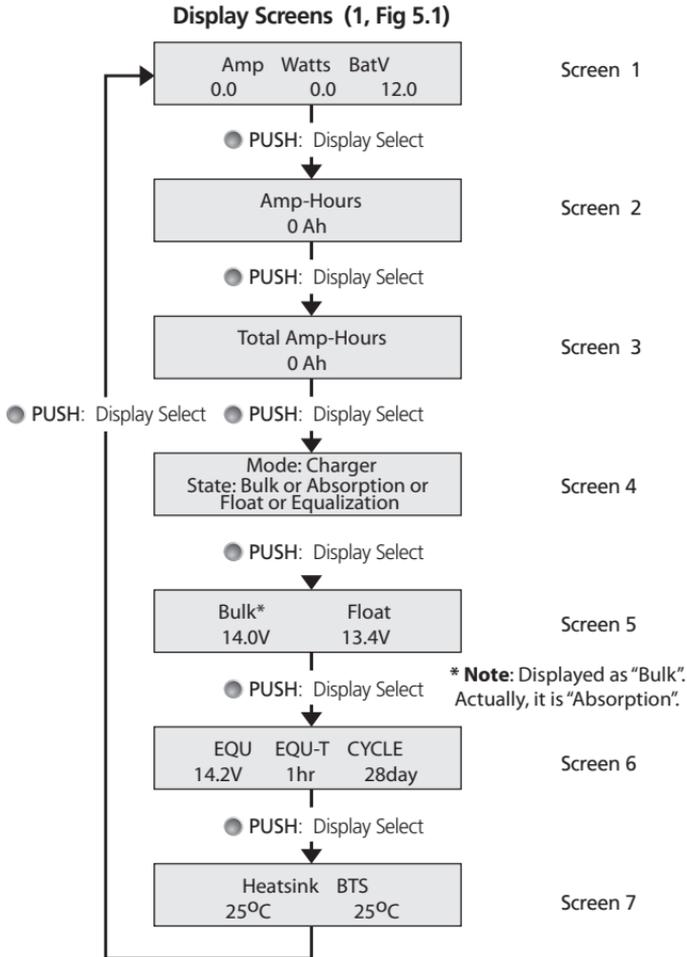

Fig. 5.3. LCD Display Flow
- LCD Screen 4 (Fig 5.3) displays “State: Equalization” all the time till the unit exits Equalization Stage to Float Stage.
- Screen 6 (Fig 5.3) displays the set Equalization Voltage (under EQU), the Equalization Time (under EQU-T) and 28 day period (under CYCLE) pertaining to one of the 6 options of battery types that has been selected with the help of DIP Switches 2, 3, 4 (Fig 5.2 and Table 6.1)
During this stage, the LCD Screen 4 (Fig 5.3) displays “State: Equalization”. Screen 1 (Fig 5.3) shows the actual terminal voltage of the battery under “BatV”. This voltage
will be less than the programmed Equalization Voltage Set Point displayed on Screen 6 (Fig 5.3) under "EQU".
NOTE: *Although the charger is in Bulk Stage, the LCD Screen 4 (Fig 5.3) displays "State: Equalization" and NOT "State: Bulk."*
During this stage, LCD Screen 4 (Fig 5.3) displays " State: Equalization". LCD Screen 6 (Fig 5.3) displays the programmed Equalization parameters. Screen 1 (Fig 5.3) shows the programmed value of Equalization Voltage Regulation Set Point "Ve" under "BatV".
NOTE: *During Equalization Stage, if the load current is more than the current from the solar panel, the battery voltage will drop. If the battery voltage drops around 1V below the Equalization Transition Voltage Set Point "Ve" for around 1 min, the controller reverts to Bulk Stage with 100% Duty Cycle. The LCD Screen 4 (Fig 5.3) will still display "State: Equalization" and the front panel Status LED will still be blinking Orange. It will revert to PWM when the battery voltage reaches Equalization Transition Voltage Set Point "Ve" and is sustained for a minimum period of around 50 to 55 sec.*
During this stage, the LCD Screen 4 (Fig 5.3) displays “State: Float”. Screen 5 (Fig 5.3) displays the programmed Float Voltage Regulation Set Point (Displayed on the screen under “Float”).
NOTE: During Float Stage, if the load current is more than the current from the solar panel, the battery voltage will drop. If the battery voltage drops around 1V below the Float Voltage Regulation Set Point “Vf” continuously for around 1 hour, the controller reverts to Bulk Stage and the LCD Screen 4 (Fig 5.3) changes to “State: Bulk”.
Display (3, Fig 5.1)	Push to change the LCD display screens (Fig. 5.3) Push and hold to reset Amp-Hours.
Fig. 5.3. Please note that the 7 screens are sequential & are displayed in a continuous loop: 1 - 2 - 3 - 4 - 5 - 6 - 7 - 1 - 2 - 3 and so on (See Fig. 5.3, page 36). When selected, Screens 2 to 7 will be displayed for 15 minutes and thereafter, will revert to Screen 1 (Default Screen). Details of information provided in the LCD screens (Fig 5.3, page 36) are given below:
As soon as Battery (+) is connected, the Status LED (2, Fig .1) will be steady Orange and message "Welcome to Samlex Solar 1.0" will be displayed for around 3 to 5 sec. After this, the LED will blink Green & Screen 1 (Fig 5.3) will be displayed: Amp 0.0; Watt 0.0; BatV="the battery voltage".